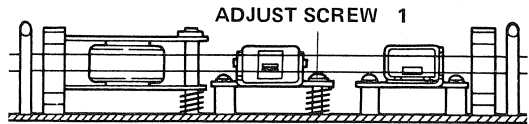

Fig. 17
5. Adjust screw-1 (Fig. 17) for maximum reading on the voltmeters.